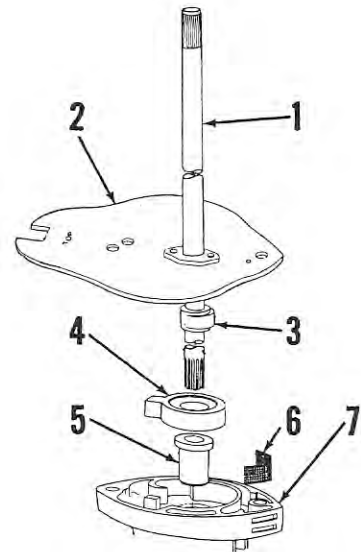

Fig. Mc6—Exploded view of water pump.
by the lug. As drive shaft turns, water is drawn into the pump (IN) and forced through the outlet (OUT) up into the power head. To disassemble the water pump, first remove the gearcase housing as outlined in LOWER UNIT section and proceed as follows: Remove the anti-cavitation plate (2—Fig. Mc6) and drive shaft (1). Rotor can now be withdrawn from gearcase housing. Cam (3) is pressed on a knurled section of drive shaft and is renewable separately. Rotor (4) and anti-cavitation plate (2) are both marked "TOP" for proper assembly.